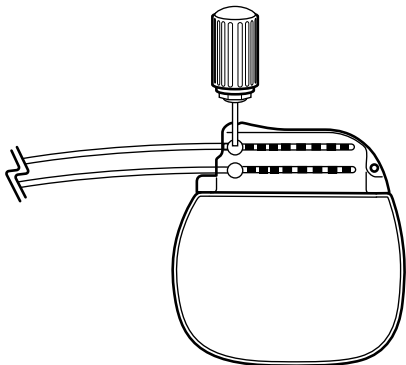

Figure 2. *Tightening the setscrews in the self-sealing grommet.*
4. For each extension or plug, fully insert the torque wrench (packaged with the neurostimulator) into each self-sealing grommet of the connector block and tighten each setscrew (Figure 2).